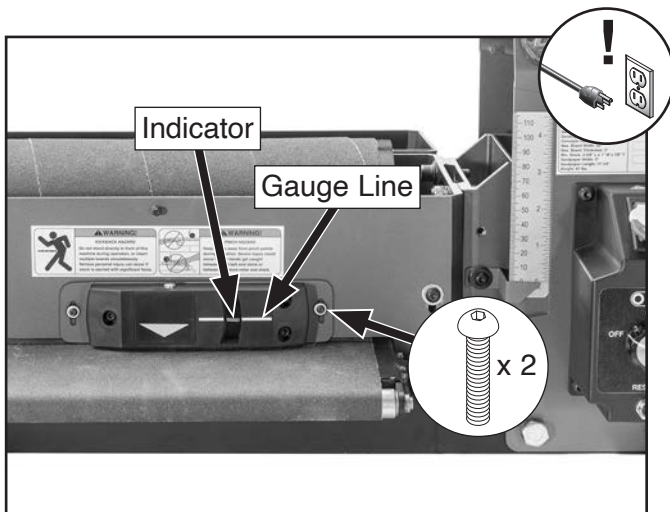

Figure 33. Indicator aligned with gauge line.
- If indicator *is* aligned with gauge line on either side of it (see **Figure 33**), no adjustment is required.
- If indicator *is not* aligned with gauge line on either side of it (see **Figure 33**), proceed to **Step 4**.
4. Loosen (2) button head cap screws shown in **Figure 33**, adjust depth gauge assembly up or down until indicator is aligned with gauge line, then tighten screws.